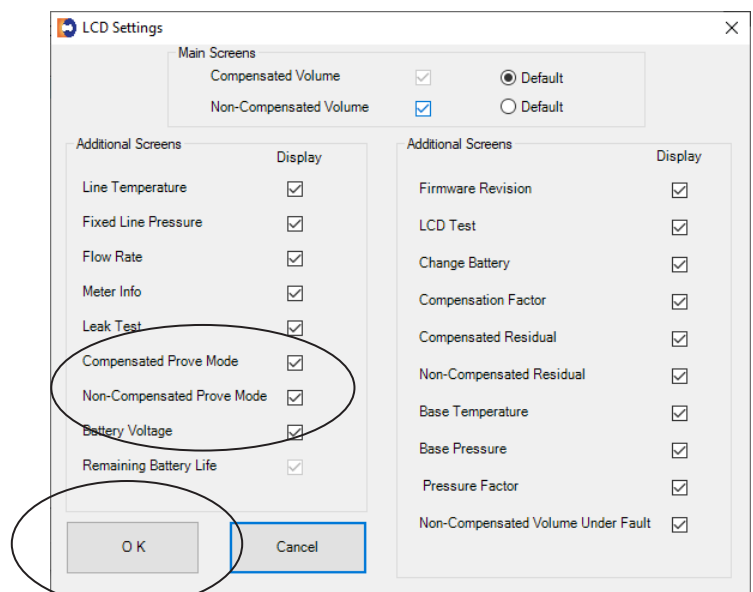

Figure 1.2 Example - LCD Settings screen in Dresser MeterWare
2. From the **LCD Settings** screen (Figure 1.2 Example), choose either **Compensated Prove Mode** or **Non Compensated Prove Mode**, or both, and then select OK to return to the **Configuration** screen.